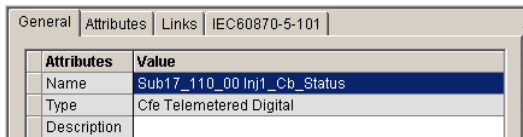

Figure 1-2.14: Naming the New Instance
- 3. The Instance Editor appears and you can enter the name and optionally a description of the new data point, see Figure 1-2.14